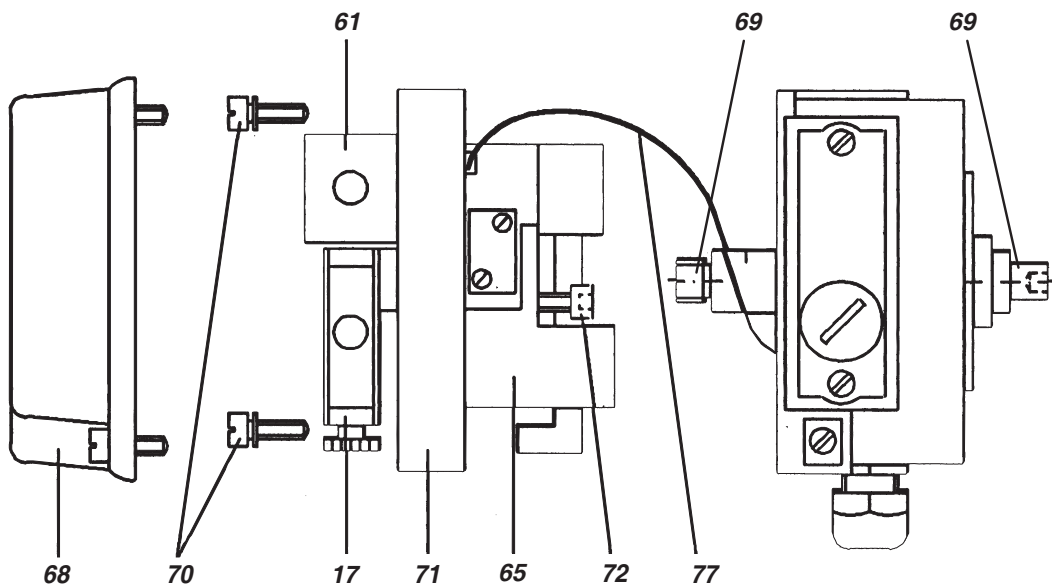

Fig. 30: Removal and reassembly of the I-p converter **65** and the booster **61**
If alterations were made to the I-p converter **65** (see Fig. 30), this must also be adjusted (see page 20).
5.3.1 Removal of I-p converter (see Fig. 30)
5.3.4 Insert I-p converter and assemble the device (see Fig. 30)